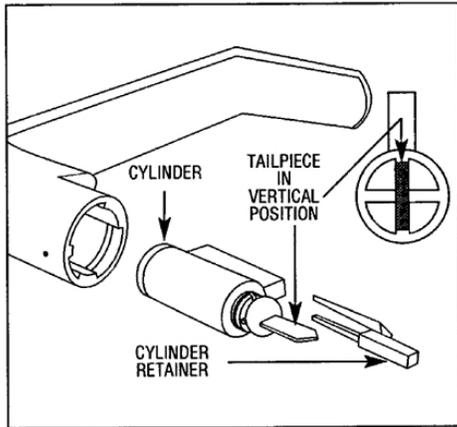

FIG. 20: STANDARD CYLINDER-LEVER, TAILPIECE AND RETAINER.
- With key in cylinder untouched (still at 45 degrees clockwise), position lever on spindle and press until lever catch engages. Remove key and test lever for proper engagement by turning and pulling. For IC models, see Fig. 20.
- Install the tailpiece, cylinder retainer and cylinder into the standard lever as shown in Fig. 20.